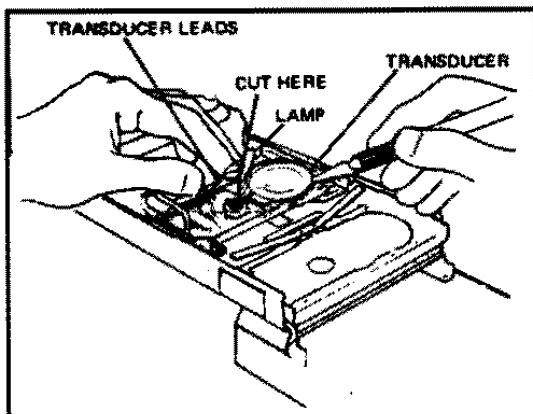

FIG. 4-11 REMOVING THE TRANSDUCER OR LAMP
1. Unsolder the two transducer leads (Figure 4-11).
2. Carefully pry the transducer free of the timer body using an X-act knife with #11 blade (or equivalent) to break the cement seal (see Figure 4-11).
Cut the two black lamp leads (see Figure 4-11).